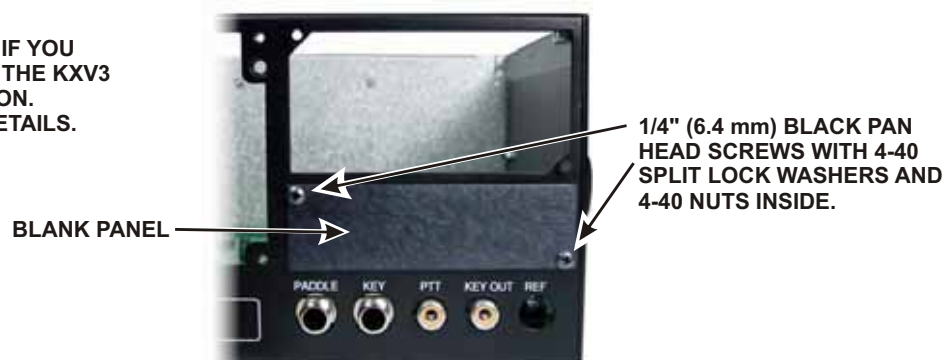

Figure 28. Preparing Rear Panel for KIO3 Installation.
□ If you have purchased the KXV3 option with your kit, go to the *Installation Procedure* in the KXV3 manual and install the option now, following the instructions in the *Special Note to K3 Kit Builders*. Otherwise mount the small blank panel in the space directly above PADDLE, KEY, PTT and KEY OUT connectors on the rear panel as shown in Figure 28.